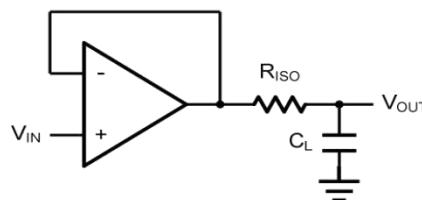
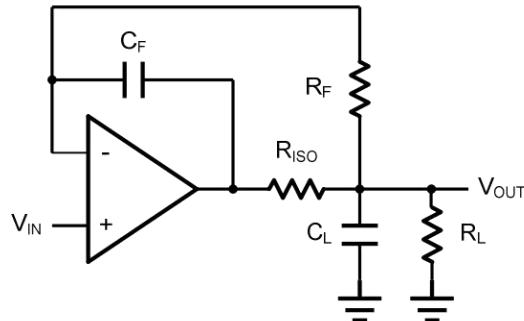

Figure 2. Indirectly Driving a Capacitive Load Using Isolation Resistor
Figure 3. Indirectly Driving a Capacitive Load with DC Accuracy
The LPV321/358/324 family is optimized for bandwidth and speed, not for driving capacitive loads. Output capacitance will create a pole in the amplifier's feedback path, leading to excessive peaking and potential oscillation. If dealing with load capacitance is a requirement of the application, the two strategies to consider are (1) using a small resistor in series with the amplifier's output and the load capacitance and (2) reducing the bandwidth of the amplifier's feedback loop by increasing the overall noise gain. Figure 2. shows a unity gain follower using the series resistor strategy. The resistor isolates the output from the capacitance and, more importantly, creates a zero in the feedback path that compensates for the pole created by the output capacitance.
The circuit in Figure 3 is an improvement to the one in Figure 2. RF provides the DC accuracy by feed-forward the V_{IN} to R_L . C_F and R_{ISO} serve to counteract the loss of phase margin by feeding the high frequency component of the output signal back to the amplifier's inverting input, thereby preserving the phase margin in the overall feedback loop. Capacitive drive can be increased by increasing the value of C_F . This in turn will slow down the pulse response.